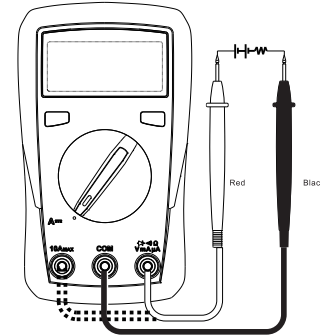

Figure 3
6. DC measurement (see Figure 3)
7. AC measurement (only for 72-13430, see Figure 3)
Please refer to Section 6 "DC measurement (see Figure 3)"